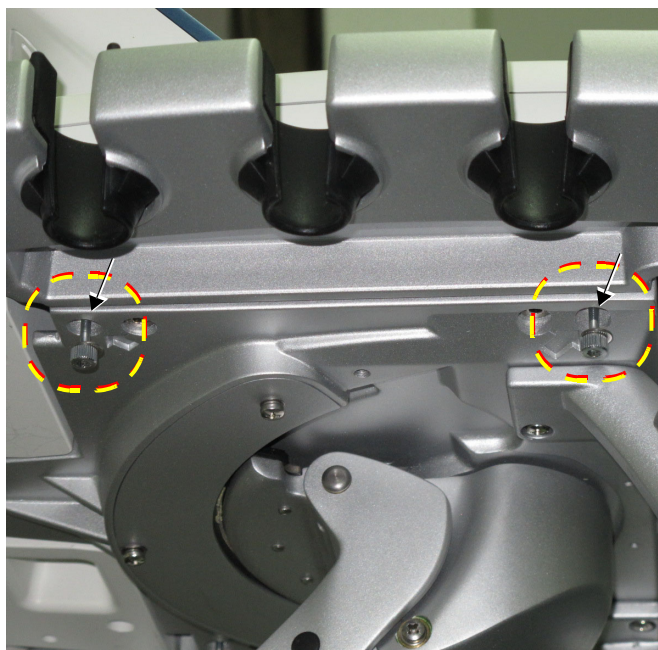

Figure 8-77 Removing the Allen Screws under Keyboard Assembly - Right Side
- 3) Working from beneath the keyboard assembly, loosen the two Allen screws on the system's *right* side (arrows marked in the figure indicate the screw locations) as shown in Figure 8-77 below.